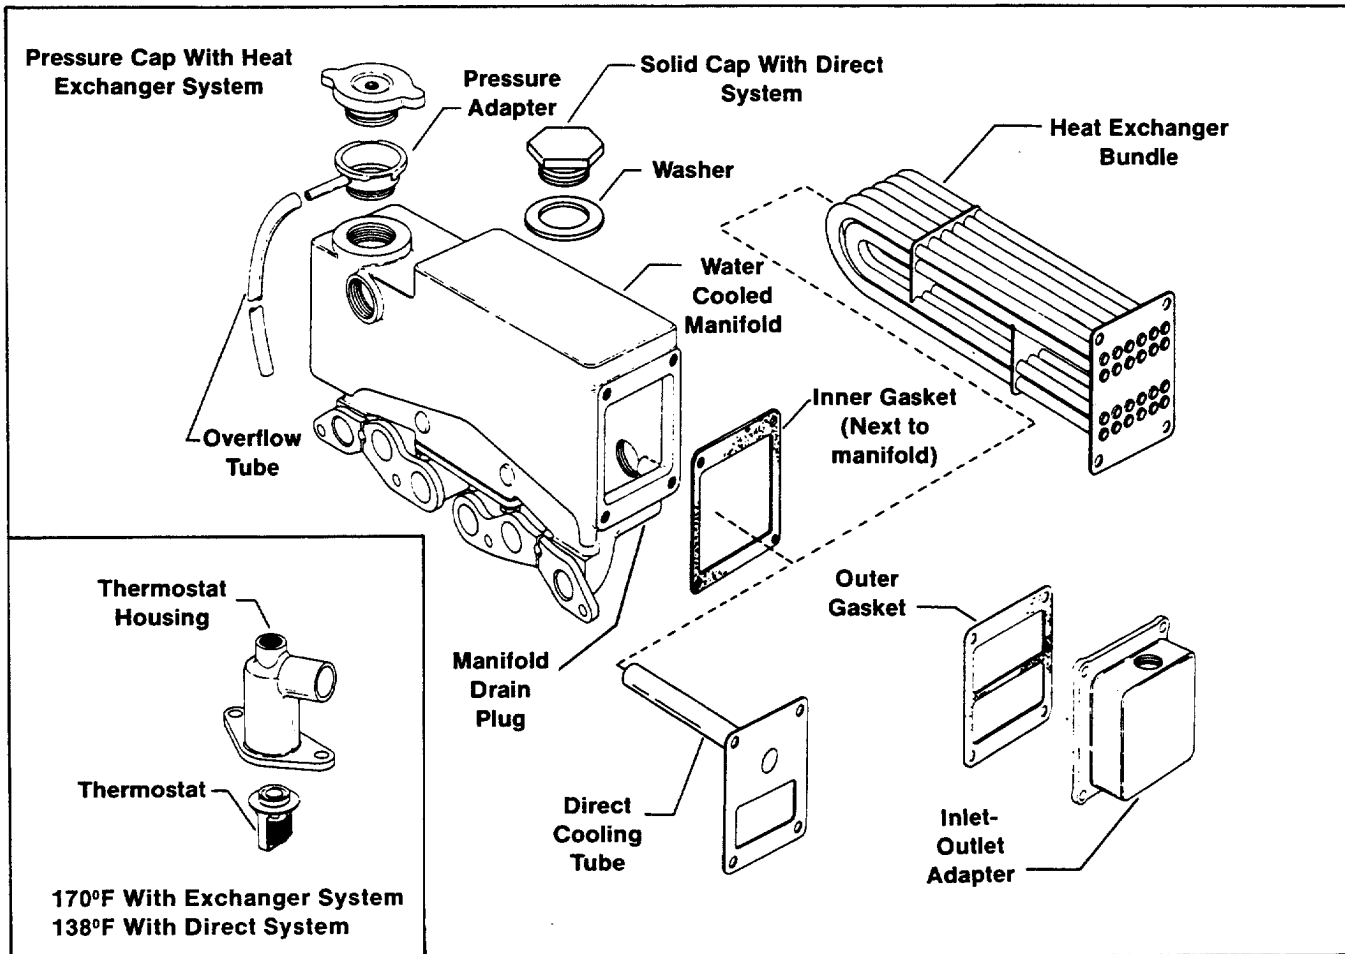

Figure 1. Cooling System Components
3. Remove engine coolant from manifold by removing the two drain plugs located on the bottom of the manifold tank. See Figure 1. The small amount of fluid remaining in the thermostat housing can be removed by opening the petcock (if provided) or removing the plug located on the side of the engine block. Replace drain plugs and close petcock after coolant is removed.